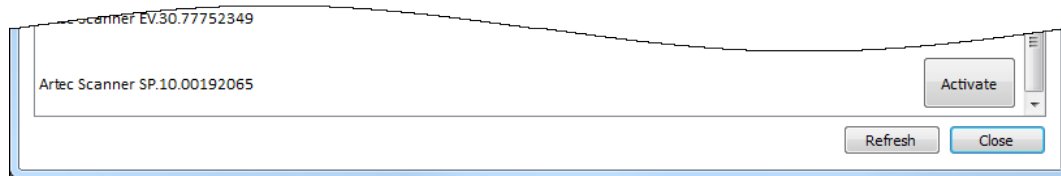
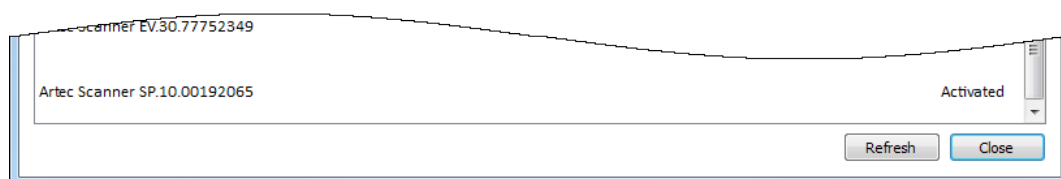

Figure 4.4: Activate button for 3D scanner
Figure 4.5: 3D scanner activated
1. Run Artec Installation Center (go to the Start menu: click *Start* → *All Programs* → *Artec Group* → *Artec Installation Center*) to bring up the window shown in Figure 4.4.
3. Go to Artec Installation Center, click *Refresh* and wait for the new 3D scanner to appear in the hardware box (see Figure 4.4). Click *Activate* (to the right of the serial number) to enable your 3D scanner. The status of the device should change to *Activated*, as Figure 4.5 shows.